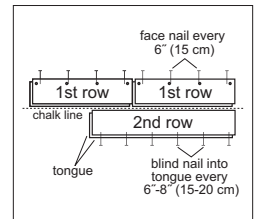

Figure 8
- Use a pneumatic finish nailer to face-nail the groove side 1/2" (13 mm) from the edge at 6" (15 cm) intervals and 1'-3" (2.5-7.6 cm) from each end. Then, blind nail using finishing gun held at a 45° angle nail down through the nailing "pocket" on top of the tongue every 6'-8" (15-20 cm) (Figure 8).